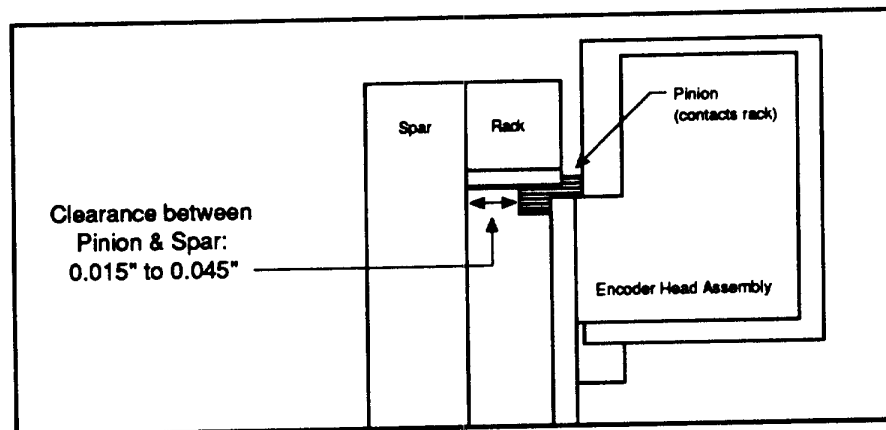

Figure 2-10. Pinion Clearance
- ① Place the encoder assembly in its final mounting position and press the pinion firmly against the rack (see Figure 2-10). *The applied pressure should be within the 1 to 2 lbs.*
- ② Install the mounting screws to the cable block, but do not **fully** tighten them.
- ③ Put your finger on top of the encoder housing and depress the spring to move the pinion away from the rack. If deflection can be felt and the spring has room to come back **the same amount as deflected**, then the preloaded pinion meets the required specification. If the preload is set properly, tighten the screws to the encoder bracket.
- ④ Move the encoder assembly so that the face of the pinion is 0.015" to 0.045" away from the spar surface (see Figure 2-10). If the pinion is touching the spar, the increased friction will reduce system speed and cause greater wear. Too little pinion contact on the rack will wear on the portion of the pinion that is in contact with the spar; consequently, the pinion may travel off the rack if it is not parallel.
- ⑤ With the encoder head preloaded and the pinion positioned properly, tighten the screws securing the encoder assembly's cable block to the mounting surface.